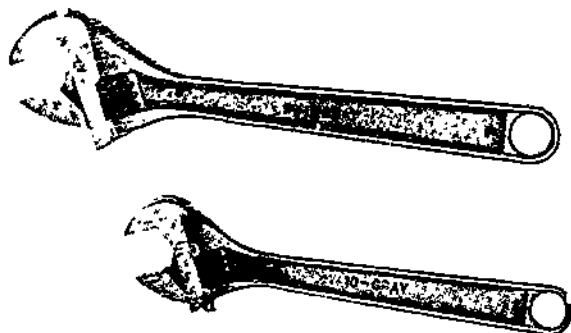

Figure 2-16. Adjustable Wrenches
**Adjustable Wrenches** Adjustable wrenches (Figure 2-16) are commonly available in sizes ranging from 4" to 15" in length, and adjustable